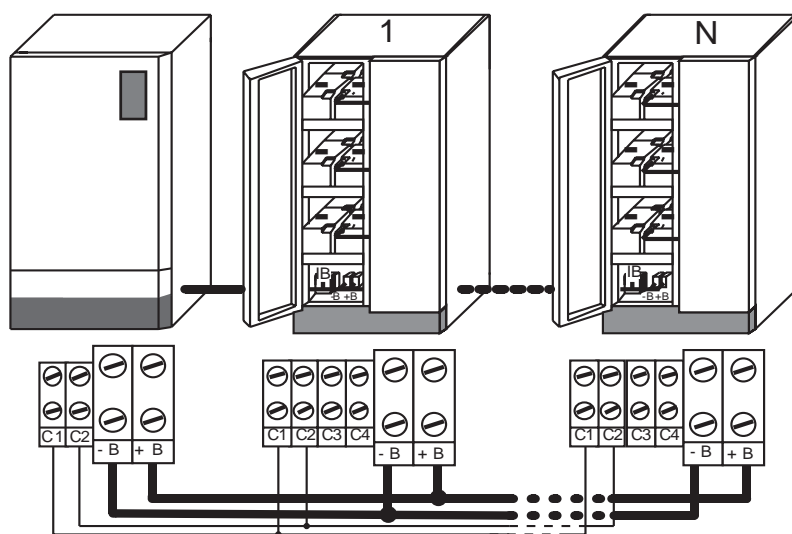

FIG. 1.10.6 UPS with additional battery cabinet
- For UPS systems with external batteries: connect the external batteries as shown in FIG. 1.10.6
For the standard battery cabinet, the terminals C1 and C2 are connected to the corresponding terminals in the UPS cabinet as in FIG. 1.10.6.